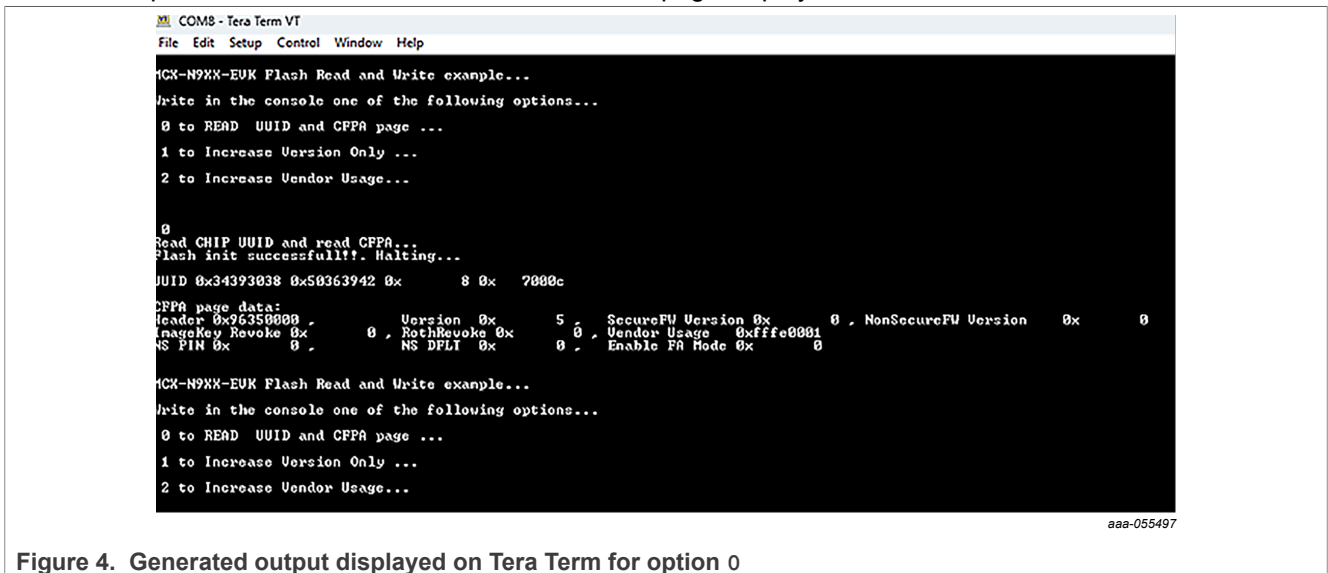

Figure 4. Generated output displayed on Tera Term for option 0
1. If the user chooses the first option by typing 0, the output is shown in Figure 4. The output includes the device-specific UUID and the contents of the CFPa page displayed.